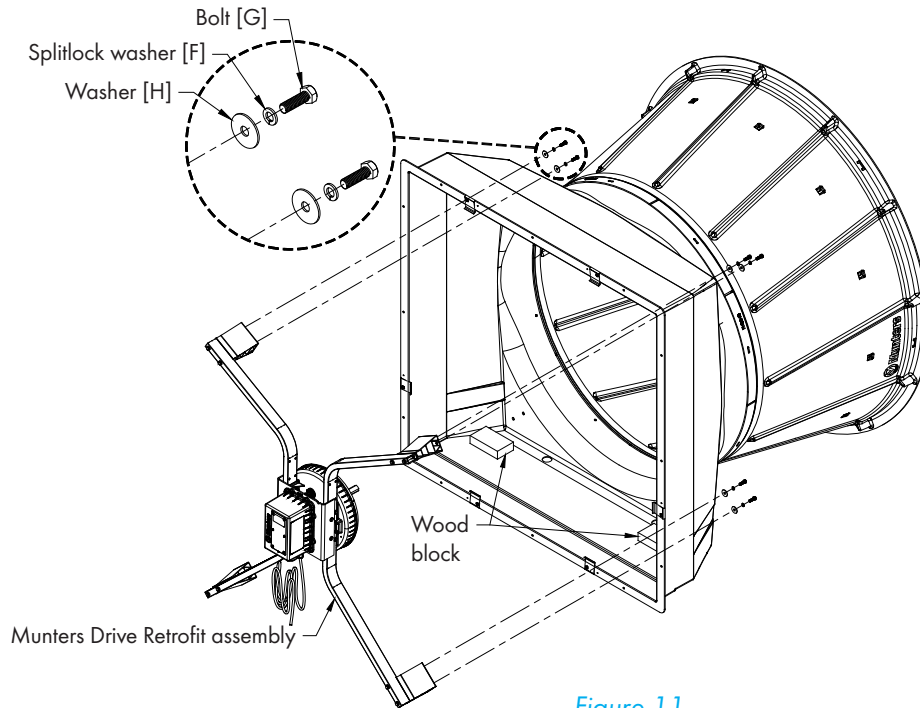

Figure 11
A 2x4 wood block may be used to rest retrofit kit on as you position it. Position the completed Munters Drive Retrofit Assembly into the fan housing and fasten in place using (8) Bolts [G], Washers [H] and Splitlock Washers [F]. See Figure 11. FINGER TIGHTEN ONLY AT THIS TIME.